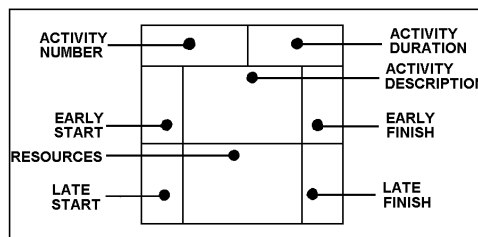

Figure 1
The steps that follow specifically outline the procedure to be followed when conducting an interview. Figure 1 provides a process flow chart of the interview process. For training departments that use skill assessment coordinators, it is their responsibility to develop and maintain a list of subject matter experts available to conduct interviews.
- e. Describe the terms in figure 1.